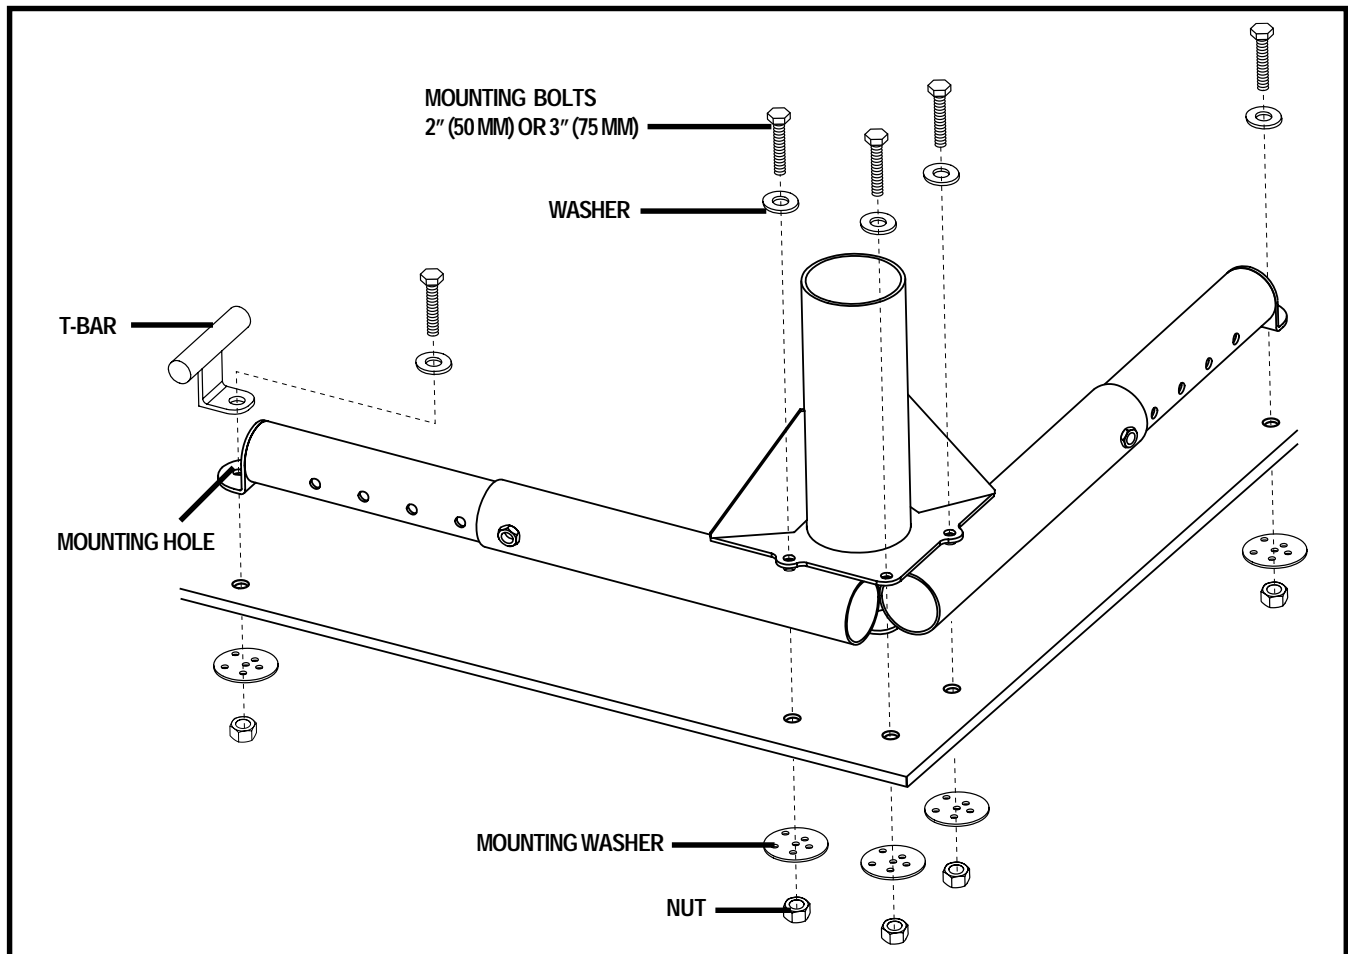

Figure 10. Securing The L-Base
1. Inspect the undercarriage of the vehicle where the lift L-base is located for obstructions that may hinder the installation of the five (5) mounting bolts that will secure the L-base to the vehicle. Obstructions may consist of electrical wiring, gas tank, bumper mounts, or exhaust pipes. You may need to adjust the base extensions to clear obstructions. If possible, install the L-base with the base extensions fully extended. **See figure 10.**
2. If all is clear under the L-base, mark the position of the five (5) mounting holes and drill them using a 3/8-in. drill bit. Drill all mounting holes from inside the vehicle. **See figure 10.**
4. Position the T-bar on the end of the base support that runs parallel with the rear of the vehicle, and install a mounting bolt and washer through it and the L-base. **See figure 10.**
6. From under the vehicle, install the mounting washers and nuts to all five (5) mounting bolts and tighten. See figure 10.